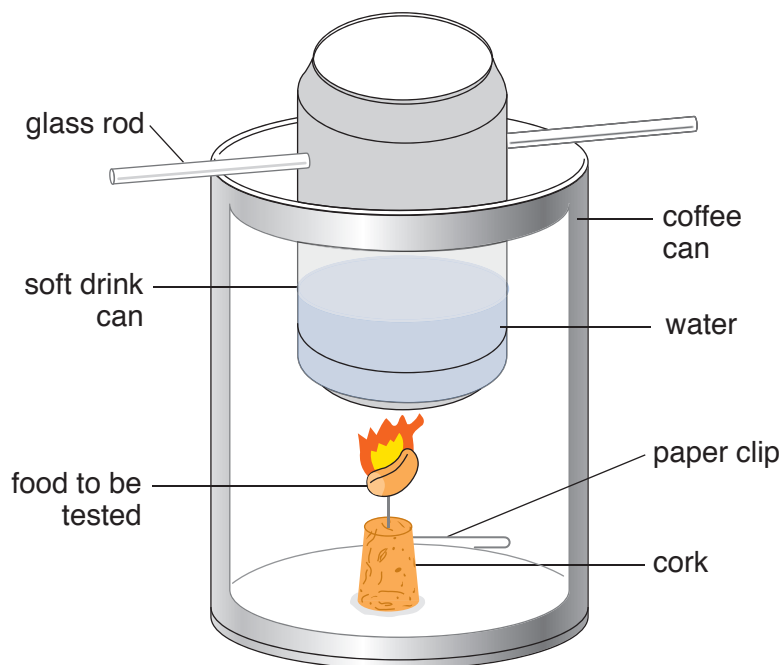

Figure 1
3. Assemble the calorimeter using Figure 1 as a guide. To assemble: